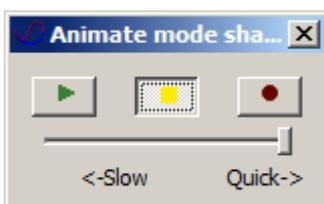

Figure 4.35 Animate mode shape dialog box
- ⇒ In the **Animate mode shape** dialog box (see Fig.4.35), click **Play** button .